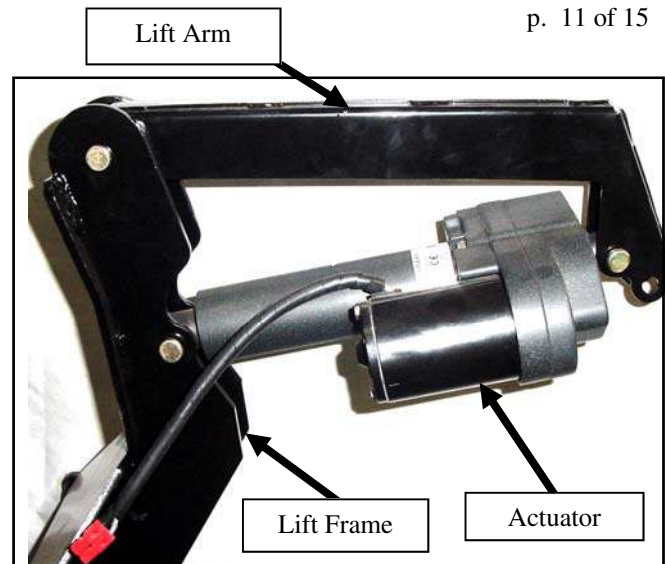

Fig. 10.1 Lift Frame and Lift Arm
- 10.1 Apply grease to the pivot holes of the Lift Arm, Actuator, and the Upper Lift Frame. Place the rod end of the Actuator between the vertical plates of the Lift Frame, line up lower hole in lift frame with rod hole in actuator. Place 1/2" x 2-1/2" clevis pin in place to hold. Place the back end of the Lift Arm between the vertical plates of the Lift Frame, line up upper hole in lift frame with back hole in lift arm. Place 1/2" x 2-1/2" clevis pin in place to hold. Place the stationary end of the Actuator between the plates of the Lift Arm as shown, line up holes and place 1/2" x 2" clevis pin in place to hold. Then insert cotter pins in all 3 clevis pins to lock in place (fig 10.1).